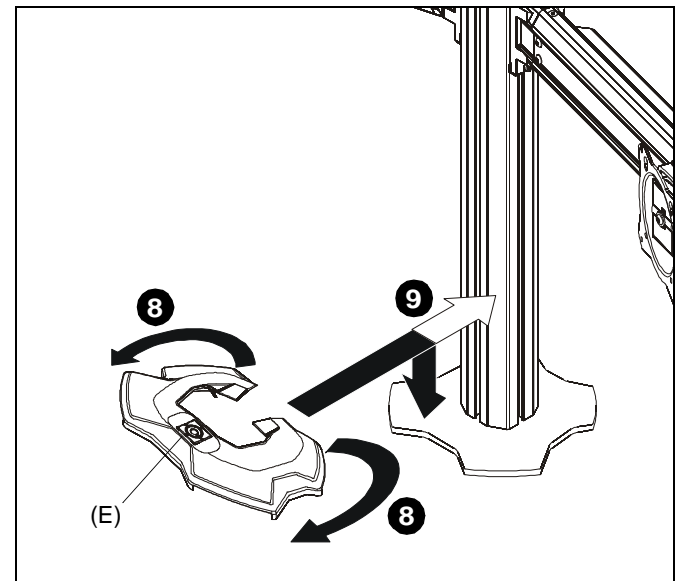

Figure 8
8. Carefully manipulate base cover (E) to create an opening large enough to wrap cover around array column. (See Figure 8)
9. Wrap base cover around column and slide it down until base cover fits securely onto table top base (C). (See Figure 8)